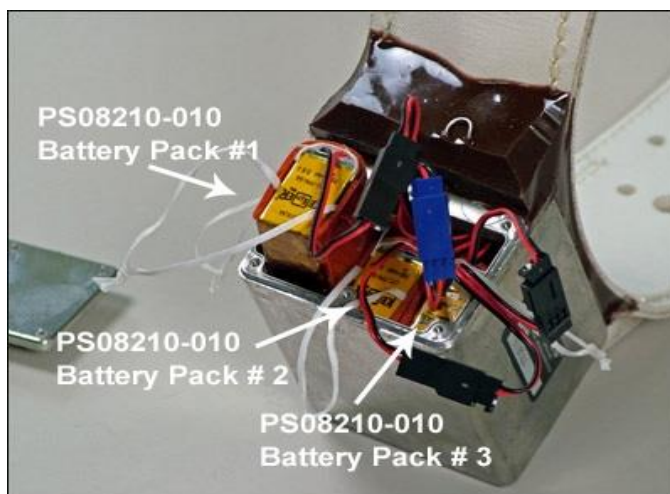

Fig. 2 Pack #1 ready to be removed from housing
3. For clarity, **(Fig. 2)** the battery packs are designated #1 through #4. #1 is located in the lower left hand corner of the housing, #2 is the middle pack and # 3 is located in the lower right hand corner. Battery pack # 4 is located in the upper left hand corner of the housing.
4. Disconnect the black connector for battery pack #1. **(Fig. 2)** Grab the white knotted cord attached to the battery pack and gently tug the battery pack up and out of the housing.